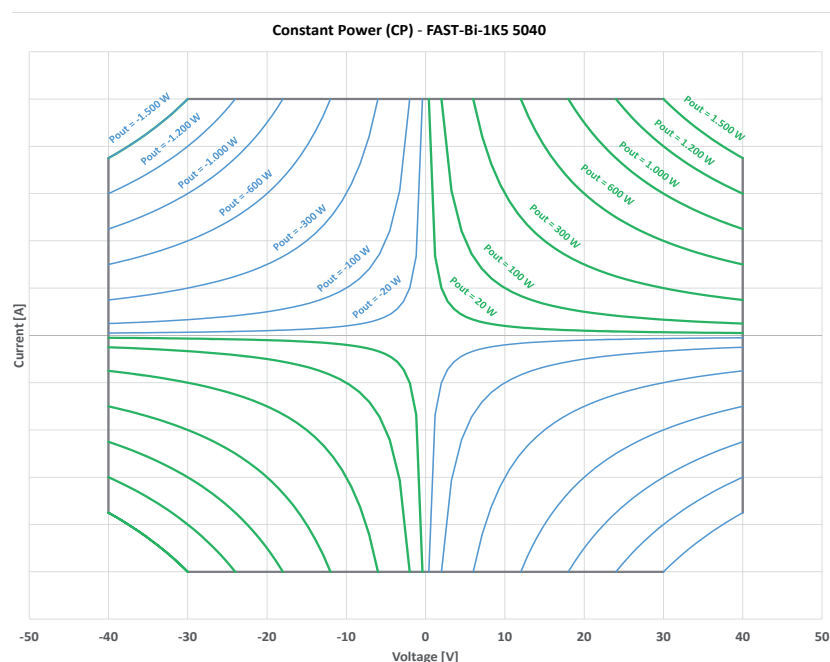

Figure 5: Constant Power (CP) curves
by only configuring the device for the specific need. An example of different Constant Power (CP) curves, corresponding to different power levels (source and sink) on a FAST-Bi-1K5 5040 can be seen in **Figure 5**.